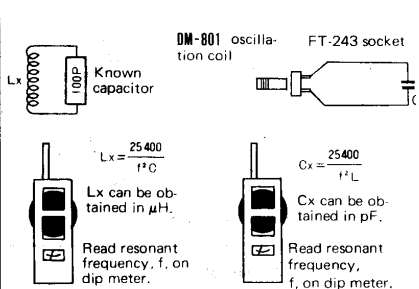

Figure 10 - Inductance and Capacitance Measurements.
The value of unknown inductor can be obtained in combination with known capacitor by their resonant frequency, as illustrated in Figure 10. Likewise the value of an unknown capacitor can be calculated. The inductance (L), capacitance (C), and resonant frequency (f) are related as: